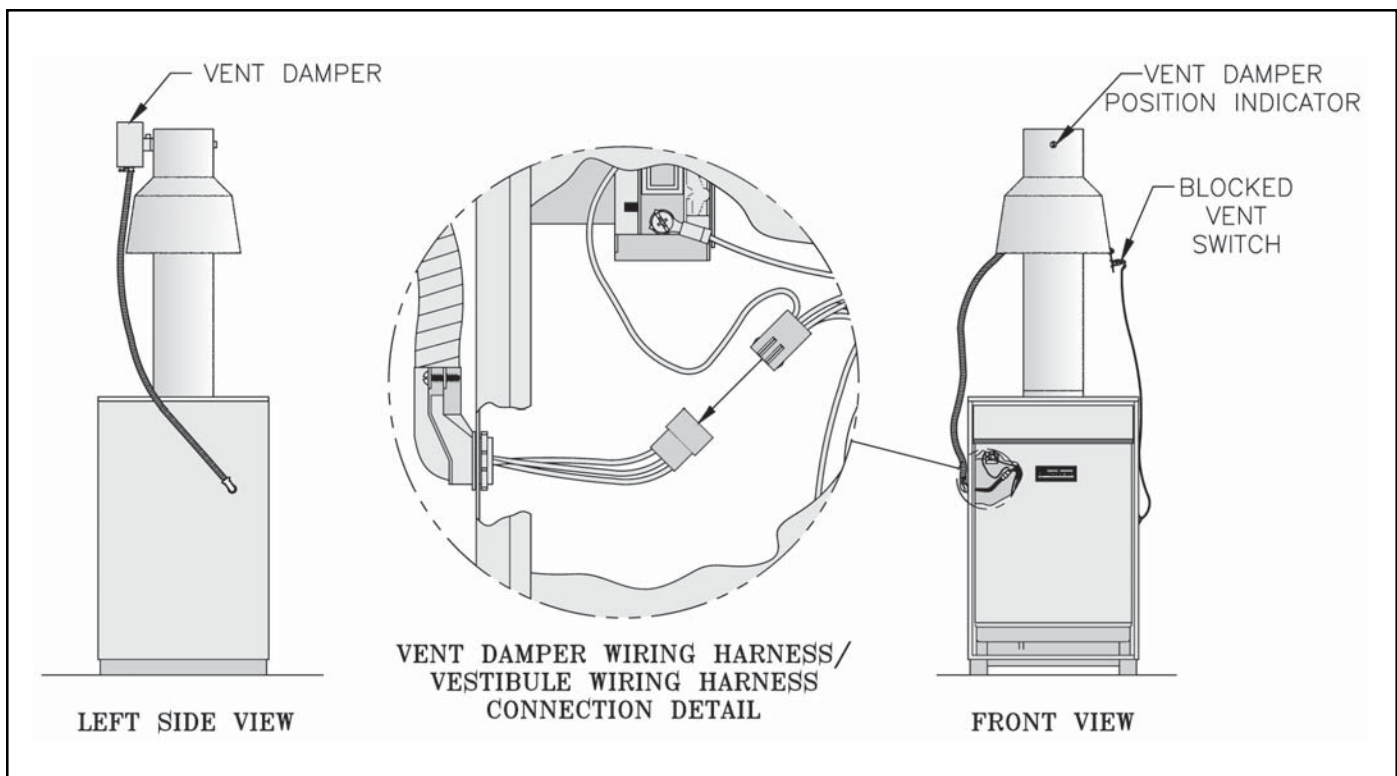

Figure 28: Vent Damper Installation
E. Boiler Equipped With Vent Damper. See Figure 28.
B. Wire Vent Damper (if used; required on 805, optional on 806-810). See Figure 28.
3. Plug Vent Damper Harness Plug into Vent Damper Receptacle. See Figure 28.